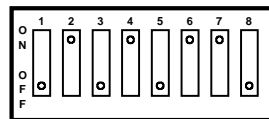

Figure 5. Receiver #3 Coding
**Receiver #3:** Switch 1 OFF, switch 2 ON (see Figure 5)